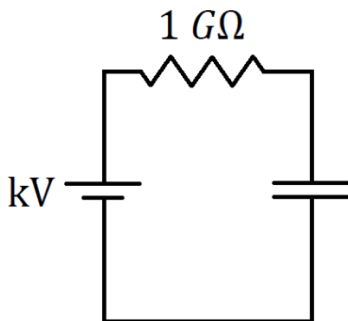

figure 1
3. Wire the experimental circuit as in *figure 1*. The wires to the capacitor plates will be magnet wire. The whole configuration is shown below.